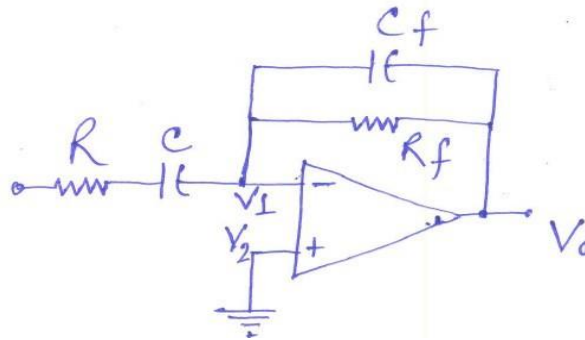

Fig.3.23 Practical differentiator circuit
- 3.6.4.18 Both the high frequency noise and problem can be compensated developing practical differentiator circuit by adding, few components. as shown in Fig.3.23.